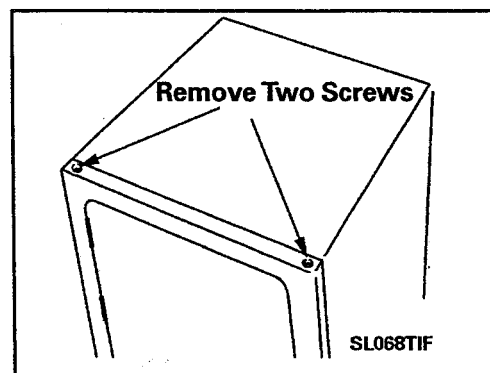

Figure 2-69
4. Remove the two 5/16" hex head screws located in the top right and left front corners of the front panel (*Figure 2-69*).